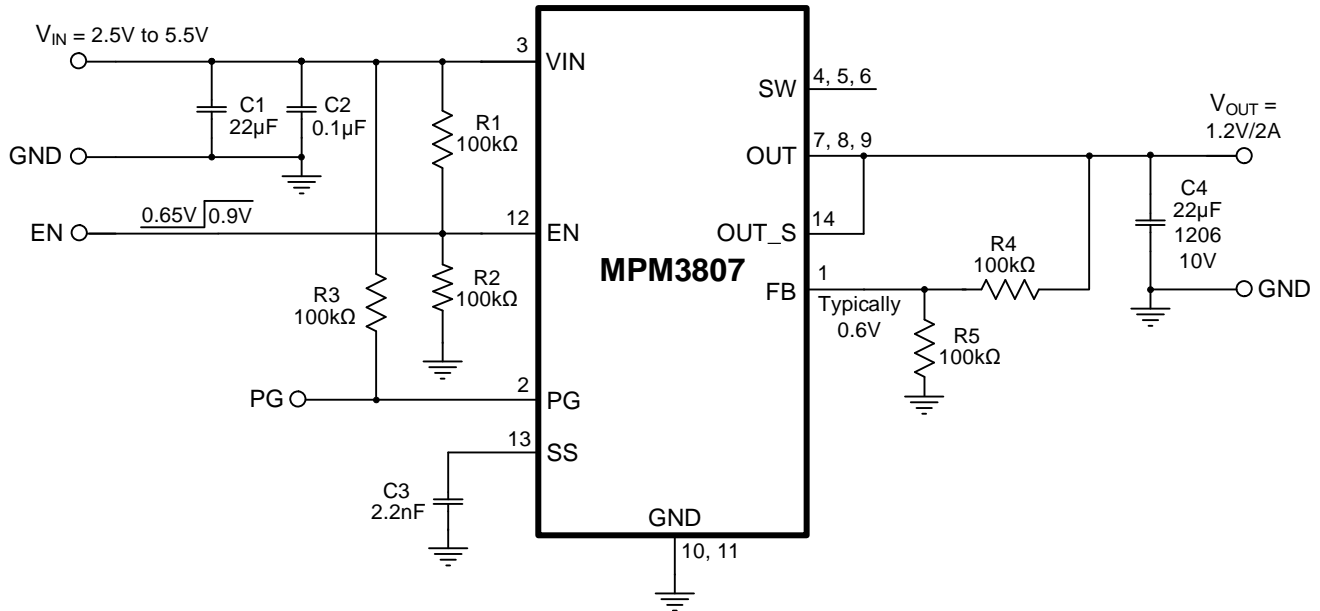

Figure 13: Typical Application (Adjustable Output, $V_{OUT} = 1.2V$)
- 11) The recommended PCB layout is based on Figure 13 on page 25.